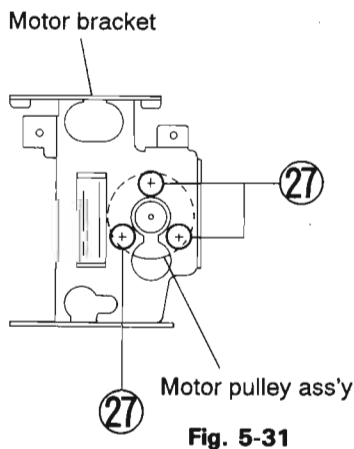

Fig. 5-31
6. After turning over the cassette mechanism ass'y, remove the six screws (26) retaining the motor bracket.
9. Remove the three screws (27) retaining the motor pulley ass'y.
**How to Remove the Flywheel** (Refer to Figs. 5-31 and 5-32)